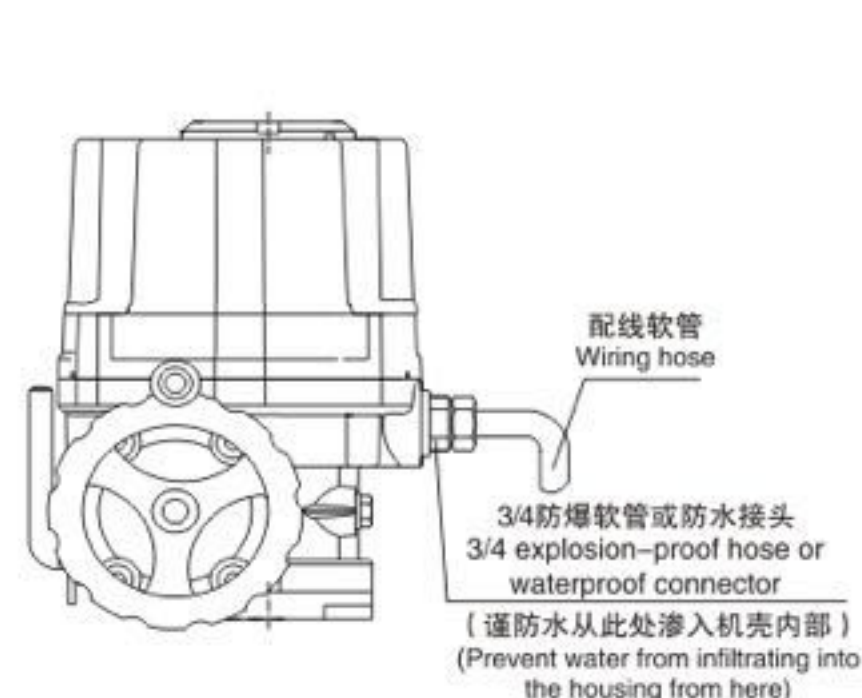
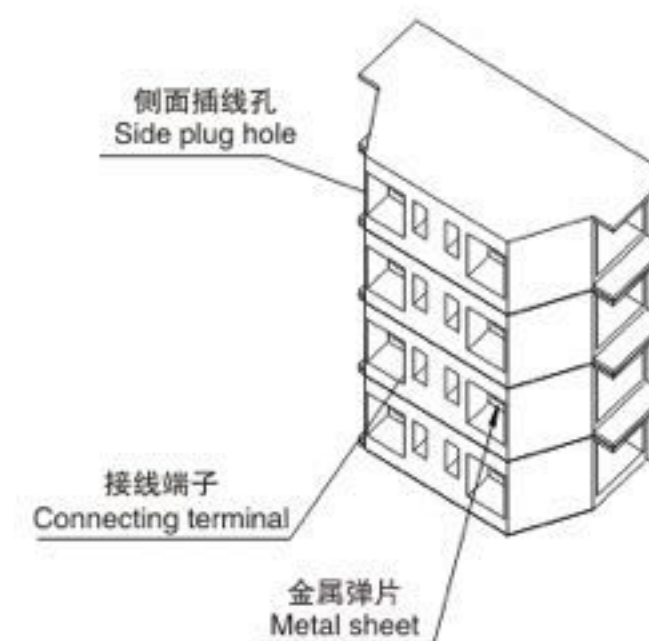

图7 Figure 7
图8 Figure 8
6.3 电源配线 (图7、图8) Power wiring (Figs. 7 and 8)